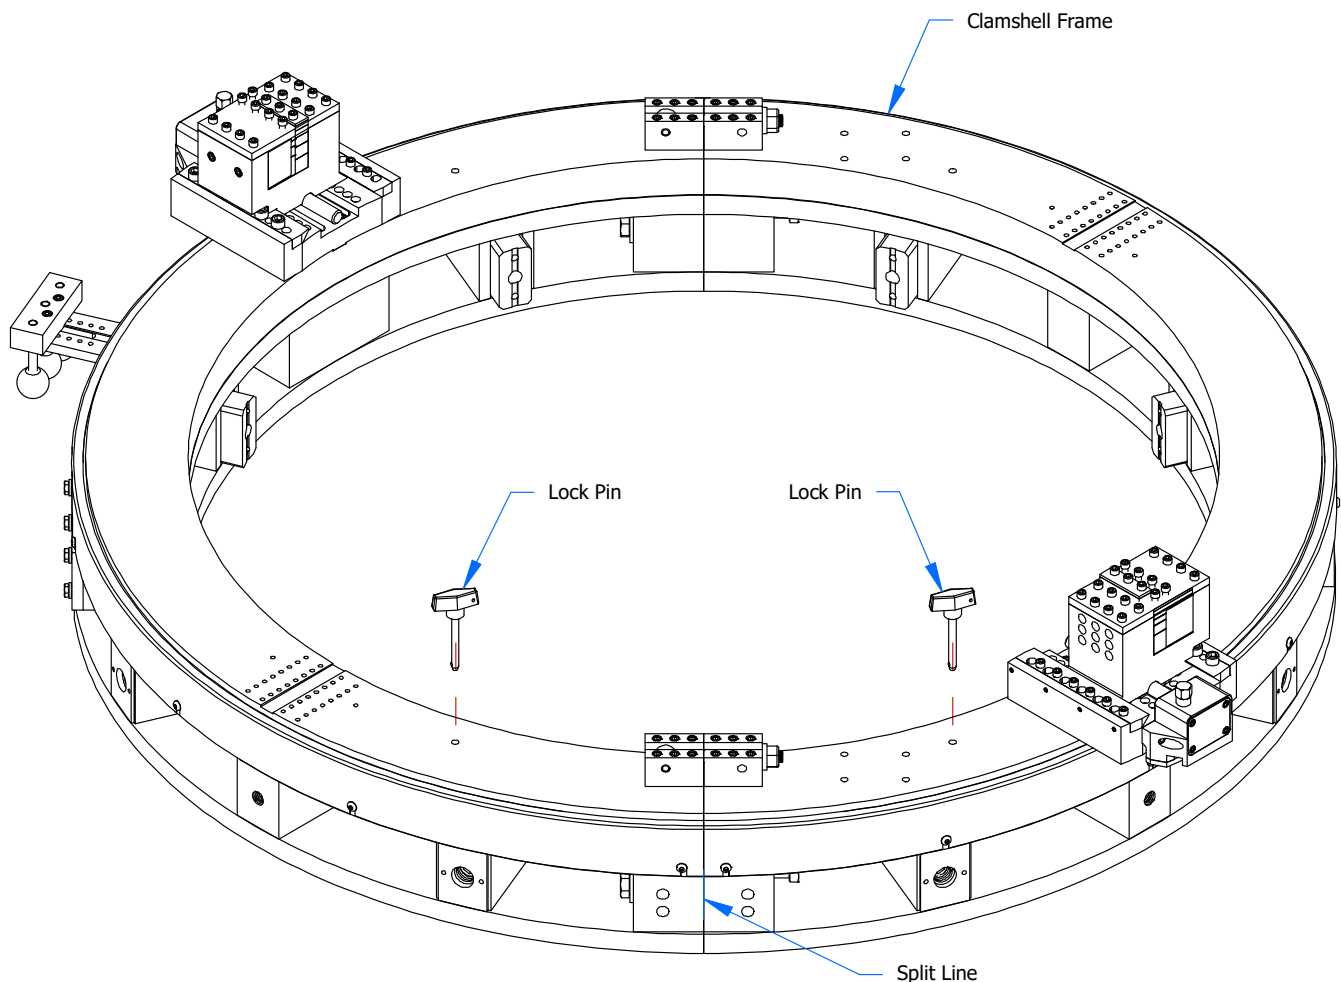

Figure 2-1 – Install Lock Pins
1. Rotate the clamshell gear to align the gear and frame split lines. Lock the gear and housing in place by inserting two lock pins through holes on the face of the clamshell. If the gear holes do not line up with housing holes, rotate gear 180°. See Figure 2-1.